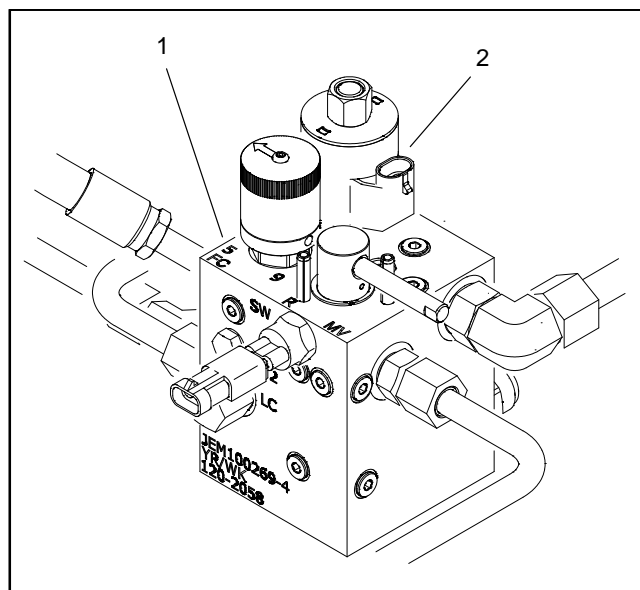

Figure 52
B. Disconnect wire harness connector from the hydraulic solenoid valve coil that is to be tested (Figs. 52 or 53).